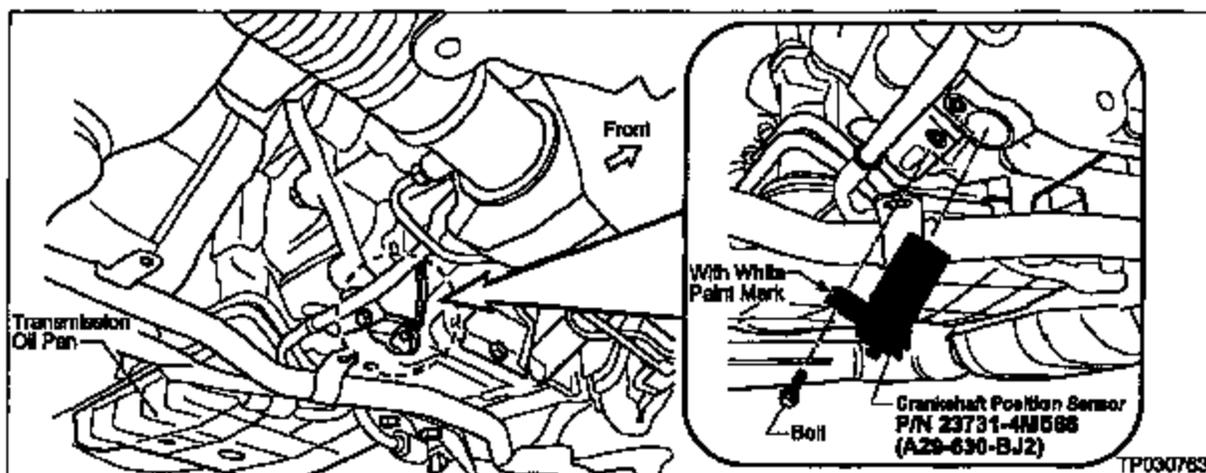

Figure 13
* This sensor has a white paint mark on it (see Figure 13, below).
3. Locate the Crankshaft Position Sensor (see Figure 13).